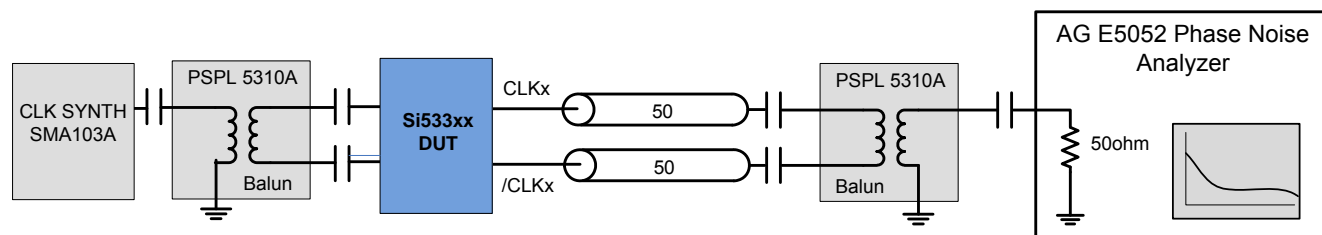

Figure 1. Differential Measurement Method Using a Balun
- Measured differentially using a balun at the phase noise analyzer input. See Figure 1.
**Total Jitter (SE):** Combined source and clock buffer phase noise measured as a single-ended output to the phase noise analyzer and integrated from 12 kHz to 20 MHz.
**Total Jitter (Diff):** Combined source and clock buffer phase noise measured as a differential output to the phase noise analyzer and integrated from 12 kHz to 20 MHz. The differential measurement as shown in each figure is made using a balun. See Figure 1 on page 5.